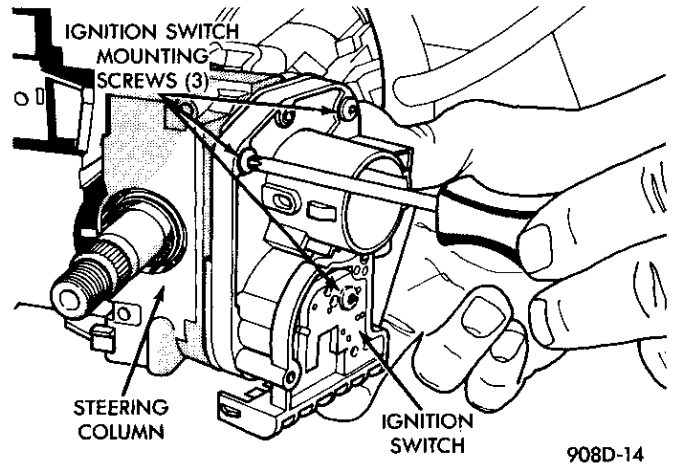

Fig. 2 Ignition Switch Screw Removal
(4) Remove ignition switch mounting screws (Snap-on torx bit tool TTXR20B0 or equivalent required—Fig. 2).
(5) Gently pull switch away from the column. Release two connector locks on the 7-terminal wiring connector. Remove the connector from the ignition switch.
(6) Release connector lock on the Key-In-Switch and Halo Light 4-terminal connector. Remove the connector from the ignition switch.
(7) Remove the key cylinder from the ignition switch as follows: